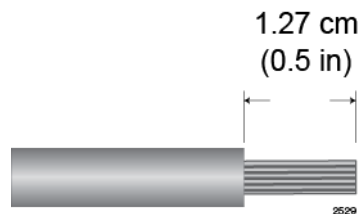

Figure 133. Stripping the Stranded Grounding Wire
1. Prepare an adequate length of stranded 10 AWG grounding wire by stripping it as shown in Figure 133.